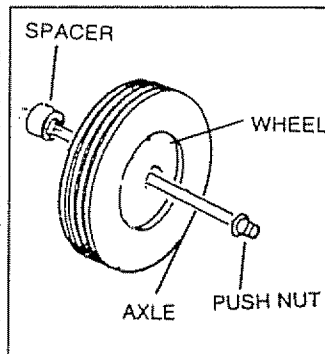

FIG. 1
- Slide a wheel onto the axle (protruding hub positioned inward) against the push nut (Fig. 1), then add a spacer.